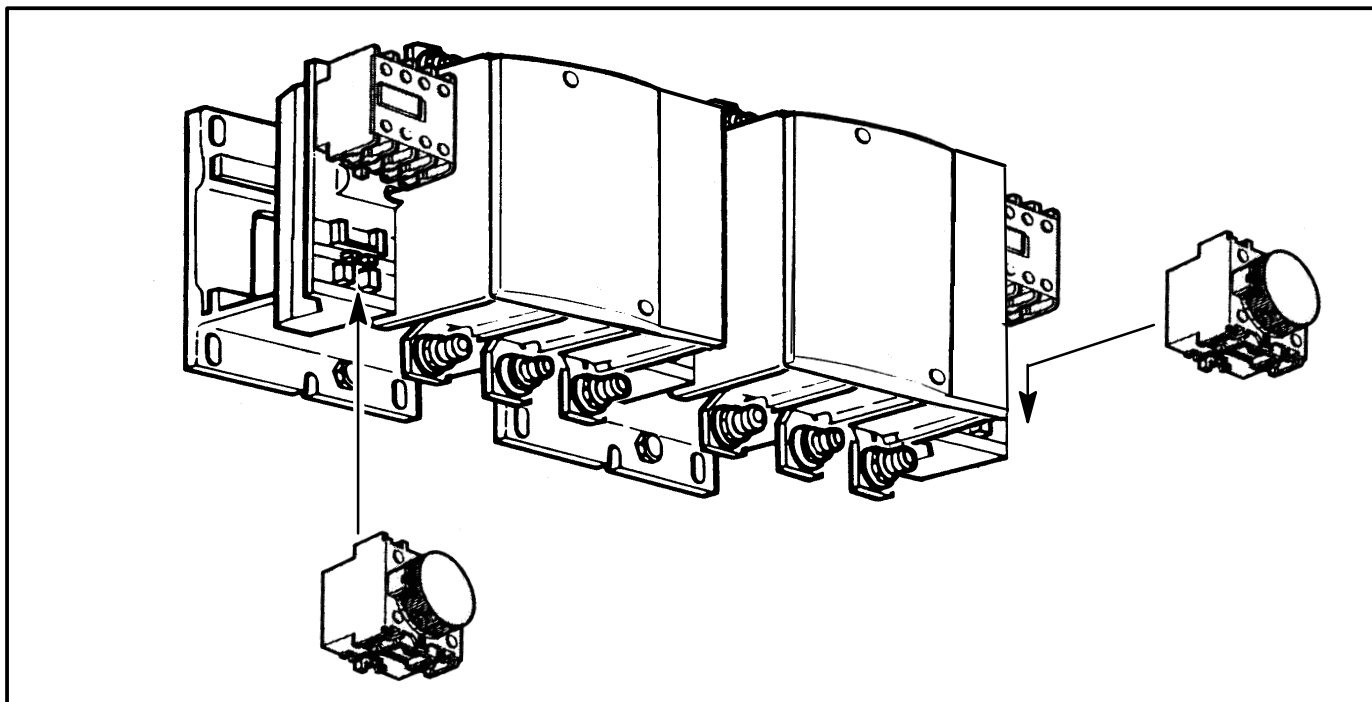

FIGURE 3. PROGRAM TRANSITION MODULE INSTALLATION
5. Install the program transition modules by sliding them into the contactor assembly as shown in Figure 3. Program transition module should lock in place.